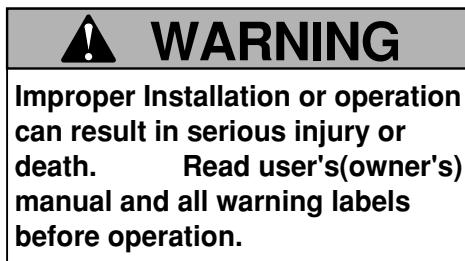

Fig. 1-3 Warning label 3
(3) Follow the instructions on listed on warning labels and in this manual.
- The warning labels 3 (Fig. 1-3) are supplied with the robot and should be affixed to the robot or conspicuous spots near the robot.